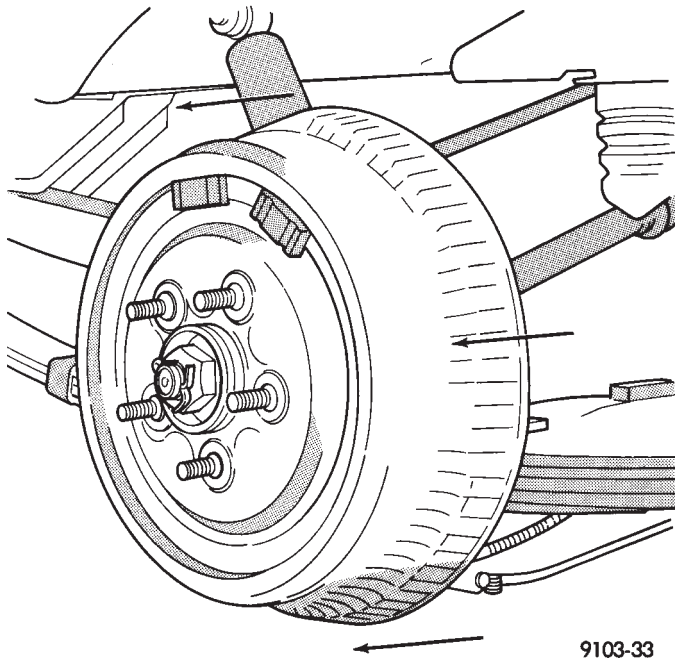

Fig. 1 Remove Rear Drum
For the fastener locations referring to the torques listed above see figures 1 and 2.
(3) Remove brake drum (Fig. 1).